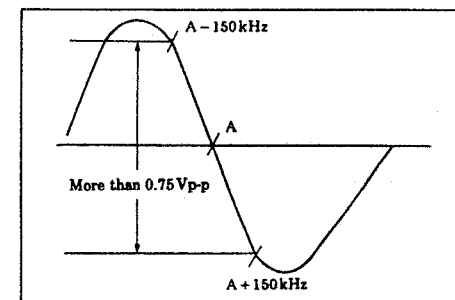

FIG.E33
7. Adjust T711 so that the attenuation of (A) trap becomes minimum. And adjust for maximum peak-to-peak amplitude of response "S" curve as shown in Fig. E33.